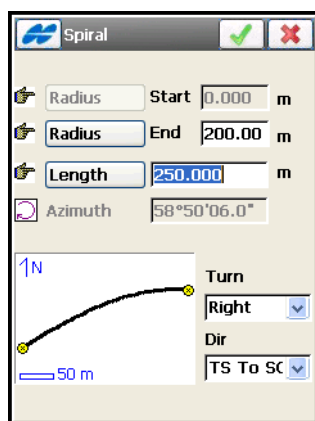

Figure 7-11. Add Spiral
2. On the *Spiral* screen (Figure 7-11 on page 7-10), enter the following parameters: